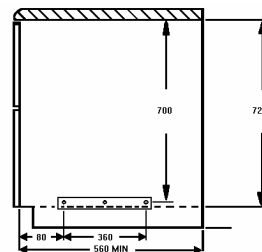

Fig. 3
- This appliance is designed to be fitted between cabinets with the recommended dimensions as shown Fig. 3 & 4.